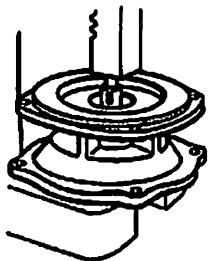

Figure 15
2. Place the mounting flange on an arbor press with the shaft end facing up; then press the shaft and both bearings out of the mounting flange (See Figure 15).
5. Place mounting flange adapter in arbor press on Fixture 3010-0001 with shaft end up. Press out shaft and bearing assembly (See Figure 15).